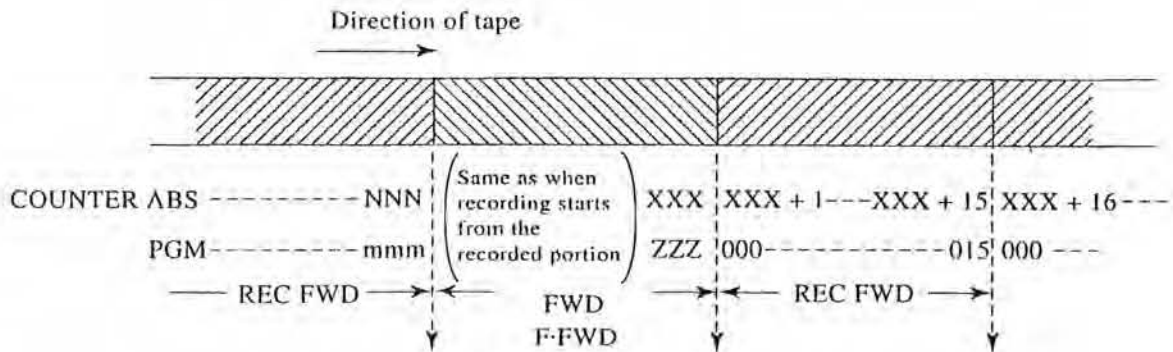

Fig. 4
- e) If a recorded tape is used to record data, this unit automatically reads the counter value of the previous recording and starts recording the counter value following that value when the cassette tape is loaded. (Fig. 4)